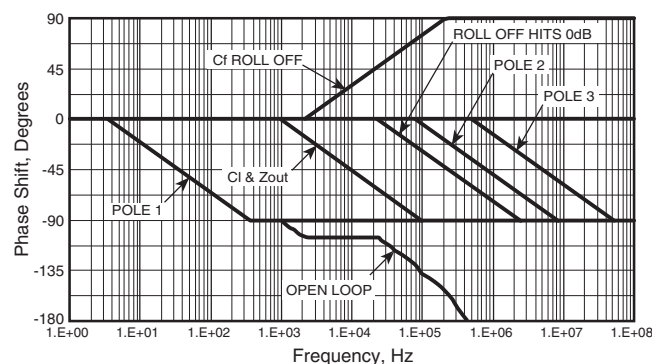

FIGURE 28.
**STEP 1:** Compensate PA241 for stability first: Refer to Figure 27 which shows how capacitive load modifies Aol. Figure 28 confirms that the selected 1/3 plot will guarantee stability for the PA241.